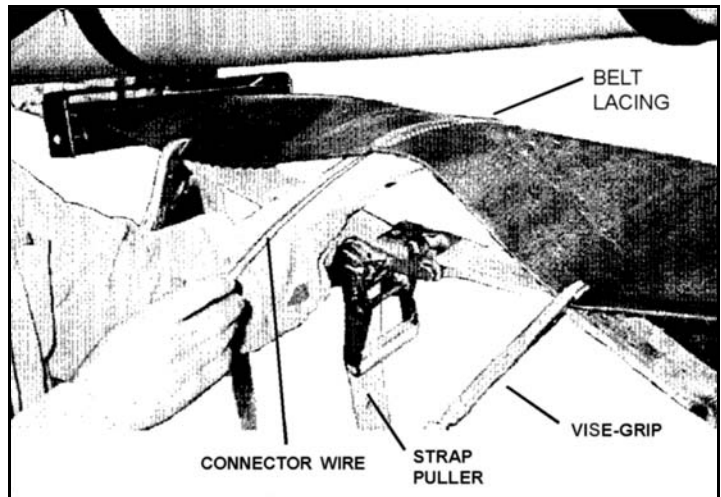

Figure 3.4
10. Pull the 2 separate ends of the belt together. Using a pair of vise-grips and a strap-puller (Figure 3.4), pull the belt together enough to inter-mesh with the belt lacing (metal tabs on the end of the belt). Install the connector wire through the lacing and crimp the retaining washer onto the end to hold it in place.